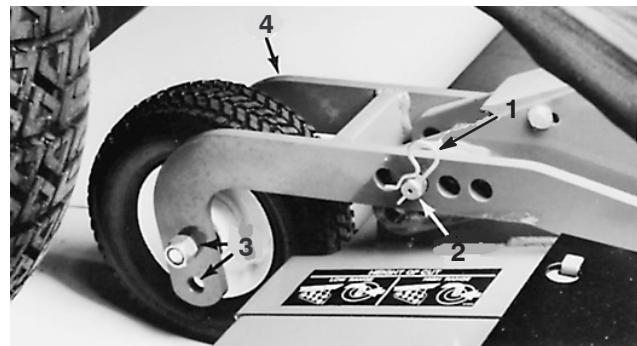

Figure 13
3. On the front cutting unit, remove the hairpin cotter and clevis pins from the rear castor pivot arms (Fig. 13). Align the pivot arm holes with selected height-of-cut bracket holes in the deck frames, insert clevis pins and install the hairpin cotsers (Fig. 13).